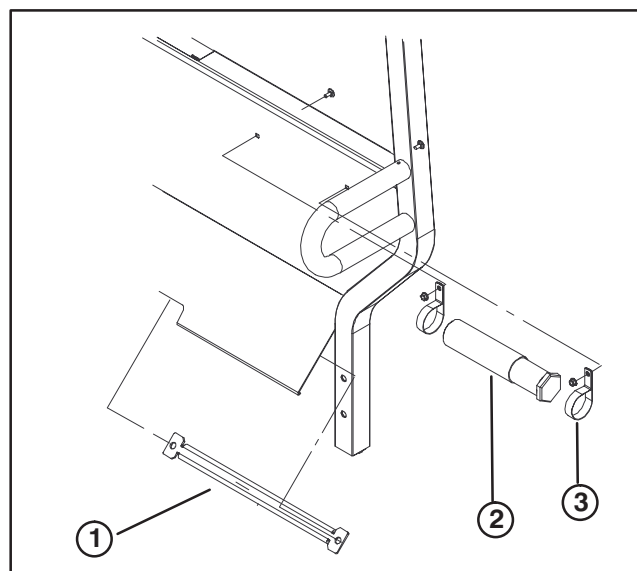

Figure 8
15. Remove bed support from storage compartment on ROPS back panel (Fig. 8). Retain bed support.
16. Slide manual tube out of R-clamps (Fig. 8).
17. Remove carriage bolts and nuts securing manual tube R-clamps to back panel (Fig. 8). Retain manual tube, R-clamps and fasteners.